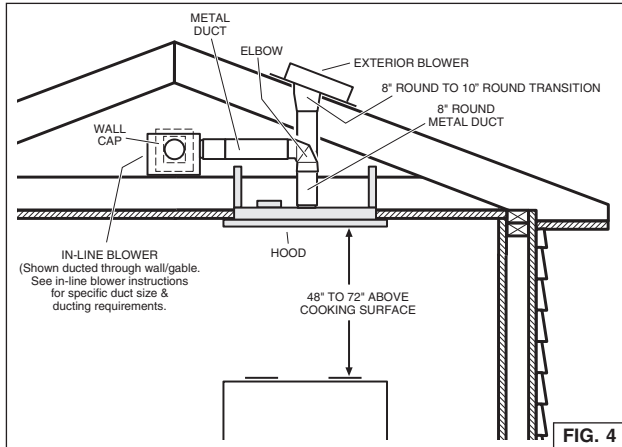

FIG. 4
3. Within 3 seconds - press f (P2) on the hood control. (Fig. 4) The LED ring will light up for approximately 10 seconds to confirm that the linking process was successful.
1. Choose the location of the hood, exterior or in-line blower and any roof or wall caps, and decide where the ductwork will run. See Fig. 4 and exterior or in-line blower instructions for suggestions.
The hood should always be centered over the cooktop. Make sure there is adequate space in the ceiling structure to install the hood and ductwork. The hood should be mounted 48" to 72" above the cook top for best removal of cooking impurities. Fig 4.